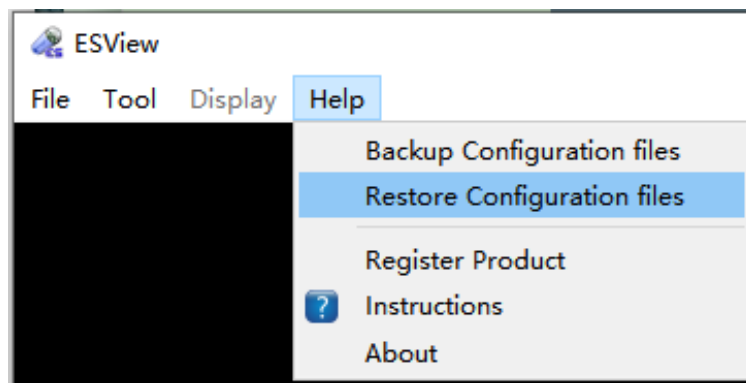

Figure 4-73: Restore Configuration File Manually
4. Select "Help" → "Restore configuration files" to open the restore configuration file selection interface, select the folder where the configuration files to be restored are located and click "Select Folder", then click "Confirm" in the pop-up dialog box to confirm configuration file restore. A dialog box will pop up to confirm the successful restore, as shown in Figures 4-73 to 4-76.